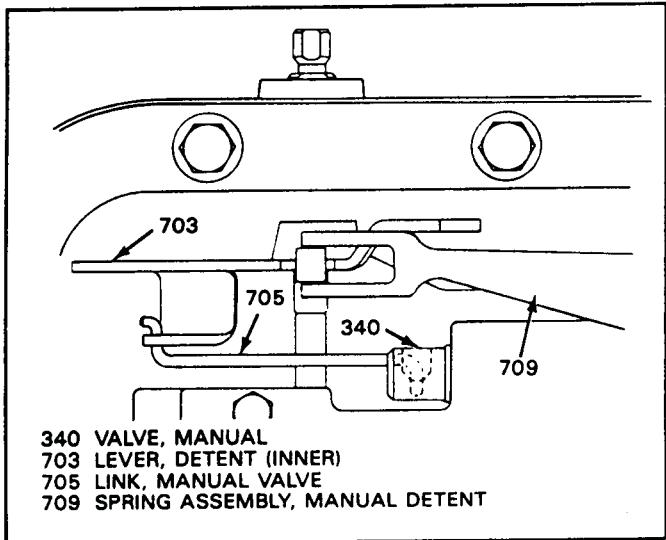

Figure 195
28. Install the detent spring on top of detent lever as shown in Figure 195, and install retaining bolt.
19. Install the pre-assembled valve body, ensuring that the manual valve link is hooked into the manual valve properly, as shown in Figure 195.